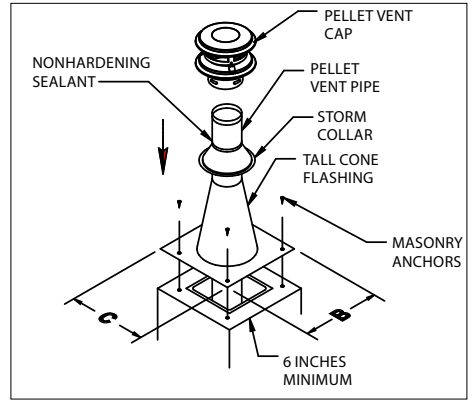
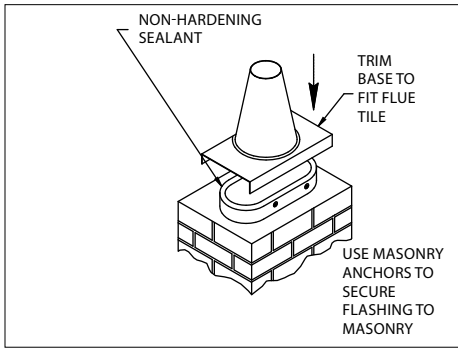

Figure 13
Figure 15
11. For the termination of the pellet vent, you will use a Tall Cone Flashing, and a Storm Collar. This will require 14" of pipe above the top of the masonry chimney. Pull the pipe up through the flashing to the desired height. Mark where the Storm Collar will go. Slip the Storm Collar down over the pipe, and affix it to the pipe with a 1/4" long stainless steel sheet metal screw. (**Figures 13 & 14**). The Storm Collar will then support the entire vent system. Install the Cap. Seal the joint at the Storm Collar, and any other joints or seams which may appear suspect. **Figure 15** shows a Tall Cone Flashing modified to fit a chimney where the tile liner protrudes above the masonry, as another alternate termination technique. This completes the masonry installation.